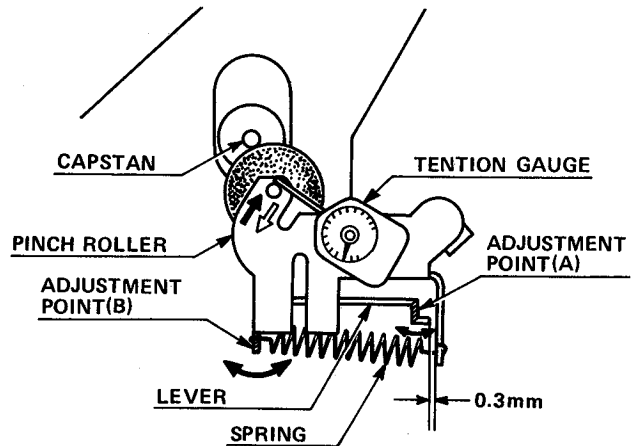

Fig. 4
1. Make sure that the clearance between the pinch roller and the lever is 0.3mm when unit is in the play mode. If not, bend the lever adjustment point (A) in the arrow direction as shown in Fig. 4 to adjust the clearance.
2. Bend the lever adjustment point (B) in the arrow directions as shown in Fig. 4 so that the tension by pinch roller may be $310\text{g} \pm 40\text{g}$ when keeping apart pinch roller from capstan (about 0.2mm) and returning it to rotate.